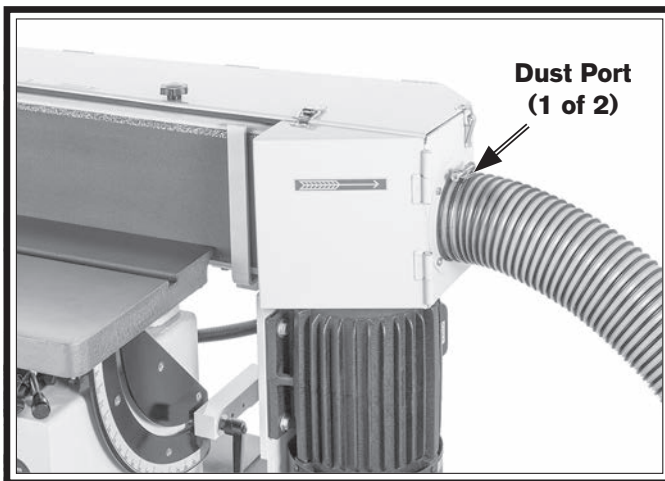

Figure 28. Dust hose connected to dust port.
1. Fit (2) 4" dust hoses connected to dust collector over dust ports and secure in place with hose clamps (see **Figure 28**).